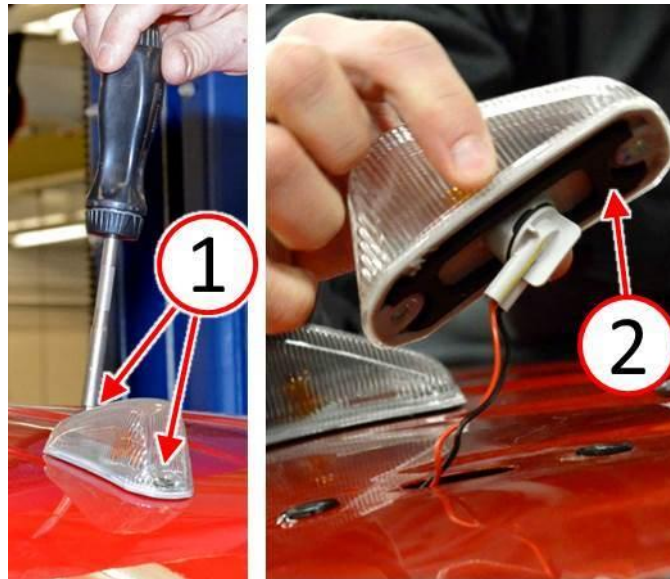

Fig. 7 Remove Roof Clearance Lamp
1. Remove the screws (1) from the roof clearance lamp (Fig. 7).
2. Lift up the roof clearance lamp (2) from the vehicle (Fig. 7).